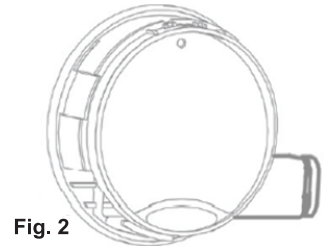

Fig. 2
- Gently take out the battery housing from the bottom side of the keypad and remove the battery from the connector. Fig.2